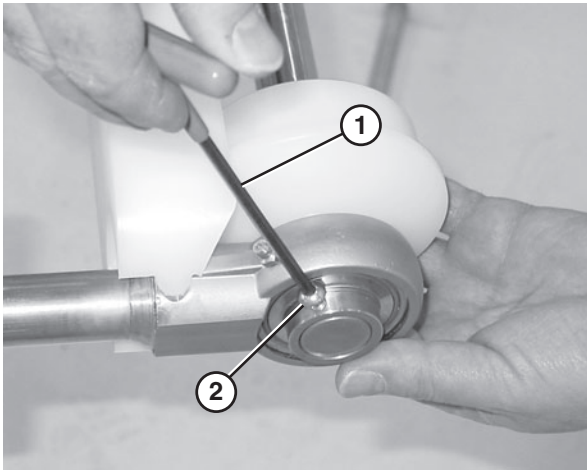

Figure 80
5. Use a hex wrench (**Figure 80, item 1**) to tighten the bearing shaft fasteners (**Figure 80, item 2**).